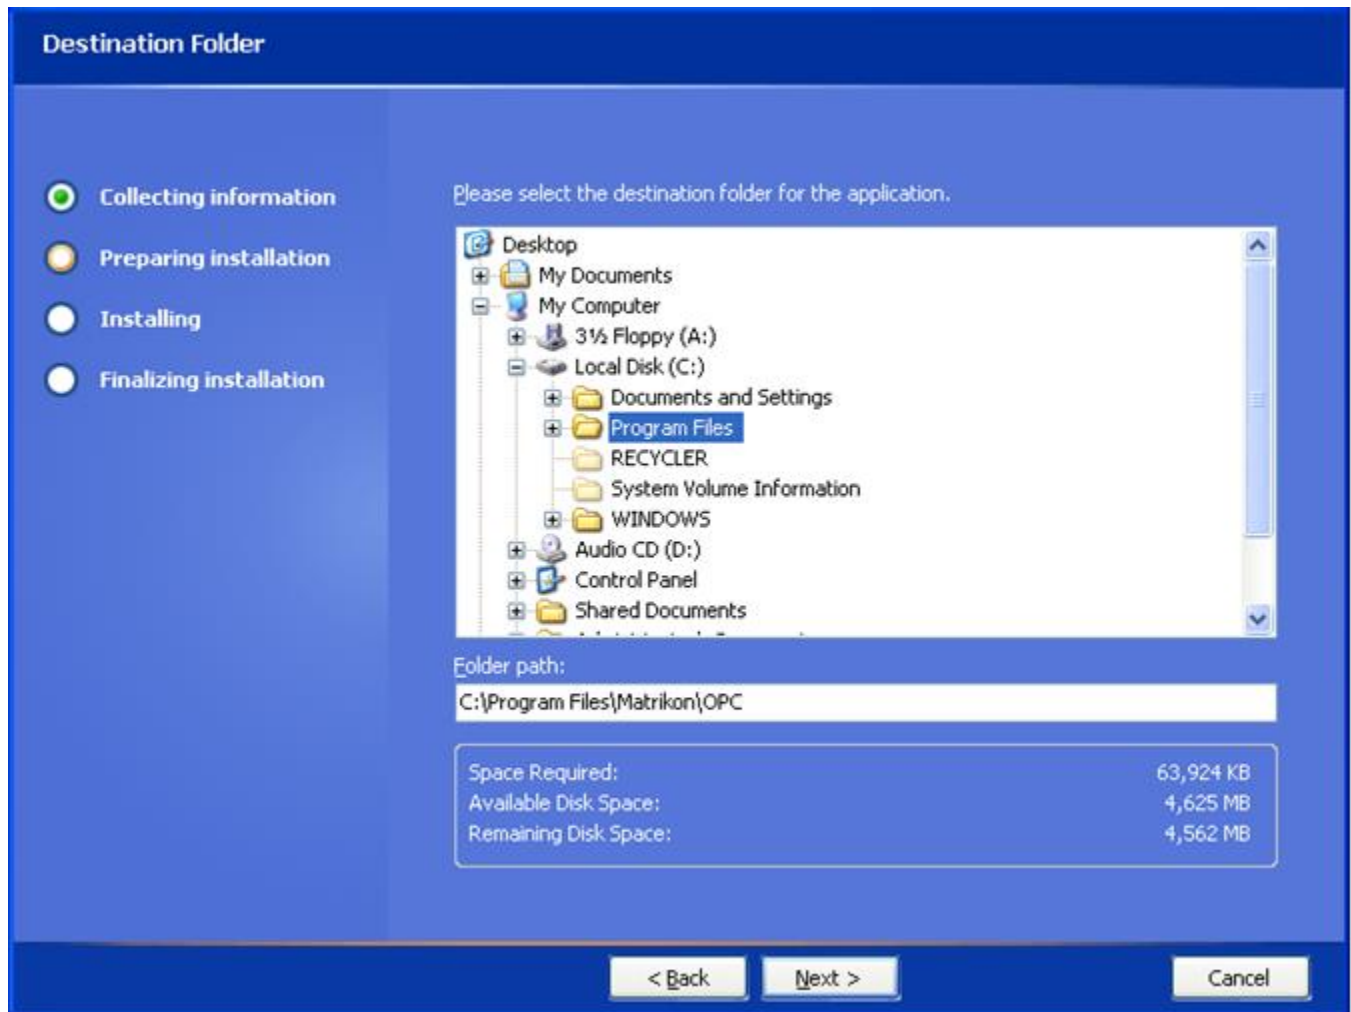

Figure 70 - Destination Folder Screen
10. Click on the **Next** button. The **Destination Folder** screen (Figure 70) appears.